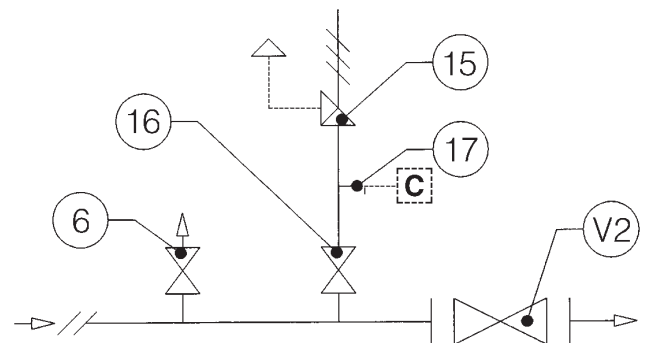

Fig. 12
3.1.2 INSTALLATION MIT ABSPERRORGAN (ABB. 12)
3.1.2 INSTALLATION AVEC VANNE DE SECTIONNEMENT (FIG. 12)